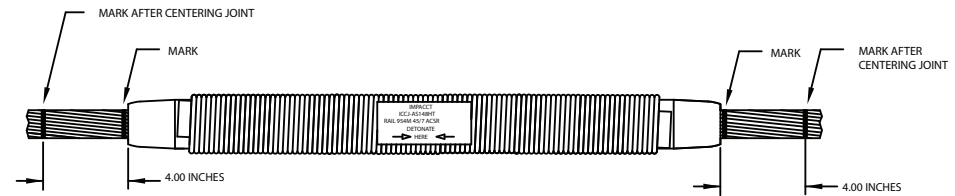

Fig. 5
5. Slide the Joint over the "Core Grip" Assembly and center it within the marks on the conductors as shown in Fig. 5. Add "Mark" 4 inches from each end of Joint. (To verify no "pull out," see Step 6.)